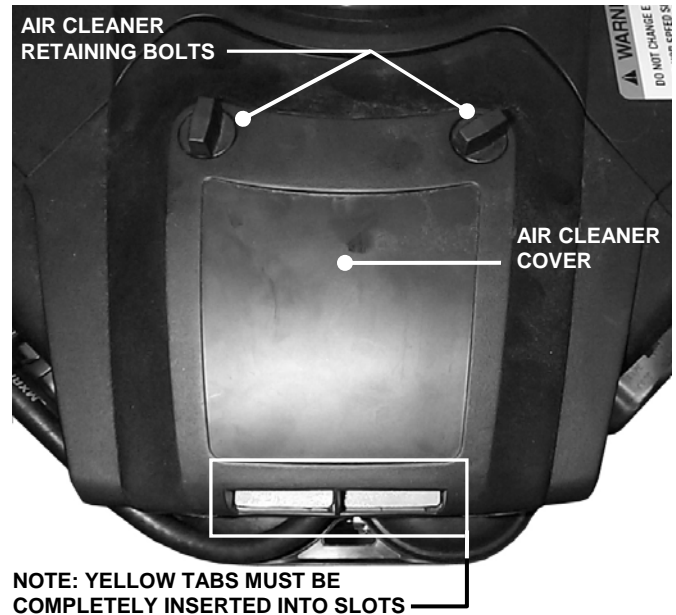

FIGURE 3.3
- a. Change air filter. Remove bolts that secure air cleaner cover to the engine. See Figure 3.3.